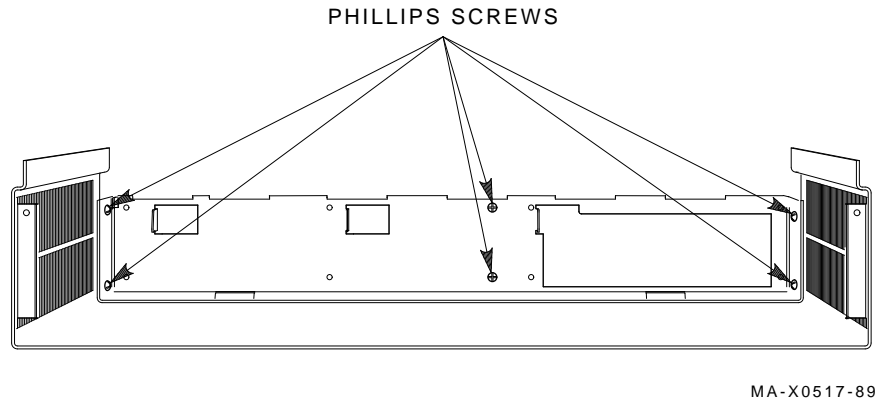

Figure 2-5 Removing the Front Bezel Screws
1. On the cover of the system box, remove the six screws (Figure 2-5) and remove the front bezel from the cover.
4. Install the front bezel onto the cover and install the six screws (Figure 2-5).